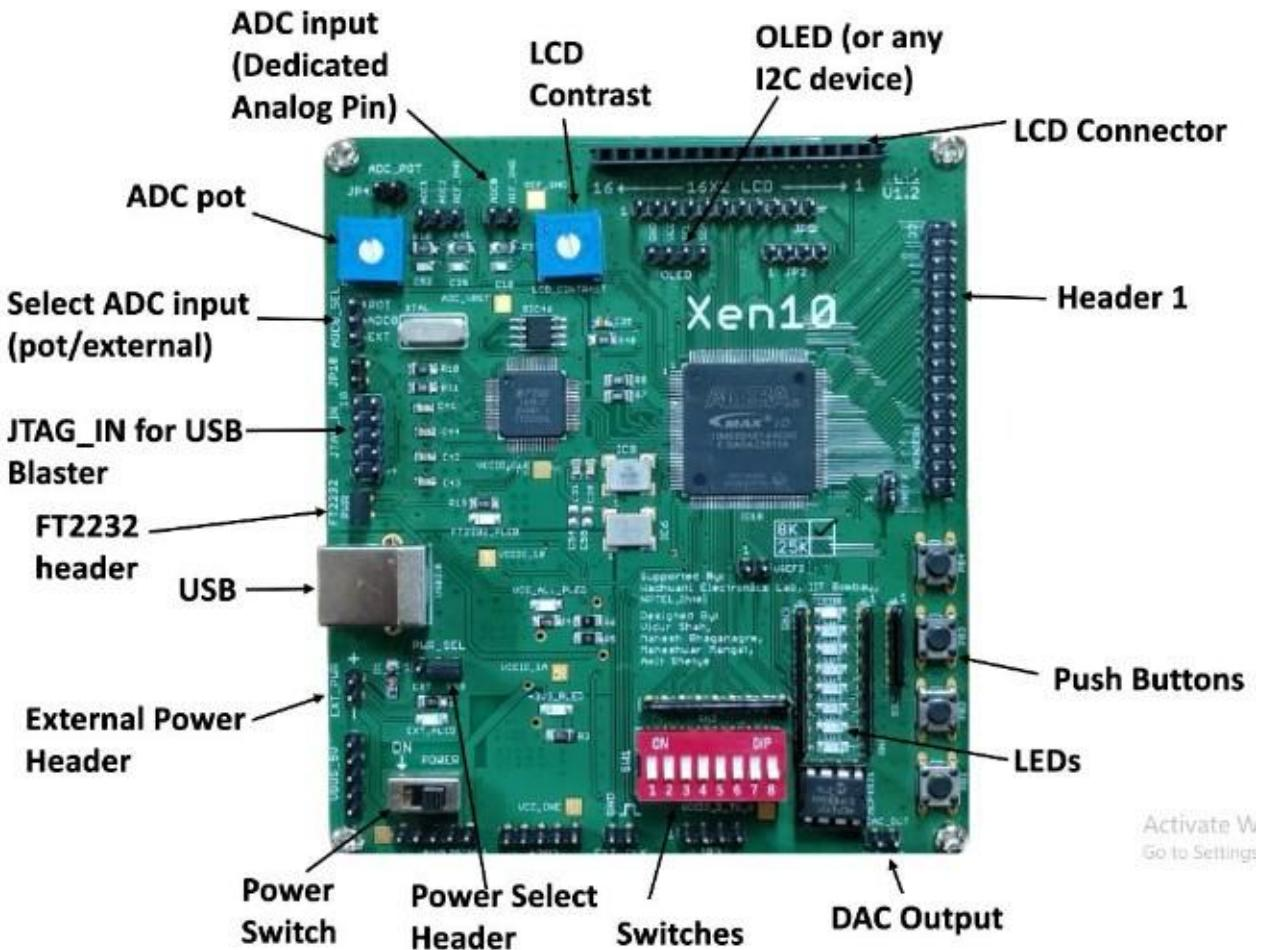

Figure 1: Xen10 topview with labelled features
Xen10 is a 10M25SAE144C8G / 10M08SAE144C8G MAX-10 FPGA-based board developed by Wadhwani Electronics Lab, IIT Bombay, NPTEL, Intel. I/O supply voltage required is 3.3 V. Power supply either through USB or EXT PWR header must not exceed 5 V (refer figure 1). This development board is equipped with on chip 12-bit ADC, TSD for temperature sensing, PLL, on-board 12-bit DAC and peripherals consisting of 8-switches, 8-leds, 4-push buttons, 10,50 MHz and 1 Hz clock generators, header connectors for GPIO's, LCD, OLED, I2C, etc. This is a low-cost solution aimed to cater to the needs of undergraduate and graduate electrical/electronics engineering students in a course in digital design and thereafter, design of fairly complex digital systems.
Figure 1 shows a top view of Xen10 with detailed labels. Functionality of labelled devices will be discussed in appropriate sections.
2. When interfacing with large number of external peripherals, power the board through a single +5V DC supply either through USB or EXT PWR header (refer figure 1) and ensure enough current can be provided by supply.
4. If programming board using USB Blaster through JTAG IN header (refer figure 1) then ensure the FT2232 PWR jumper is disconnected.